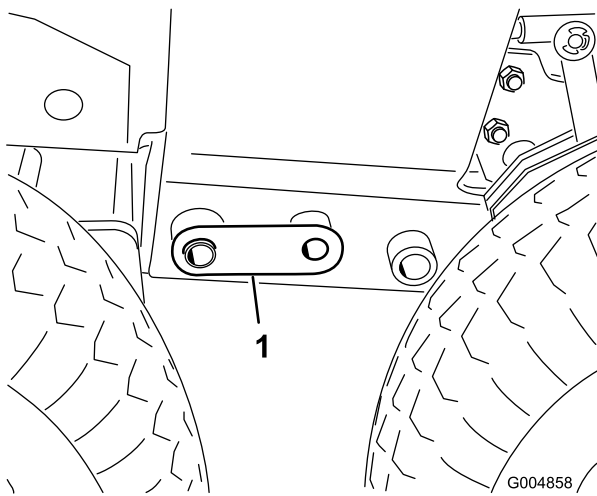

Figure 38
7. Adjust the floor jack to line up the 1.00 inch holes in the frame and install a coupler pin on each side (Figure 38).